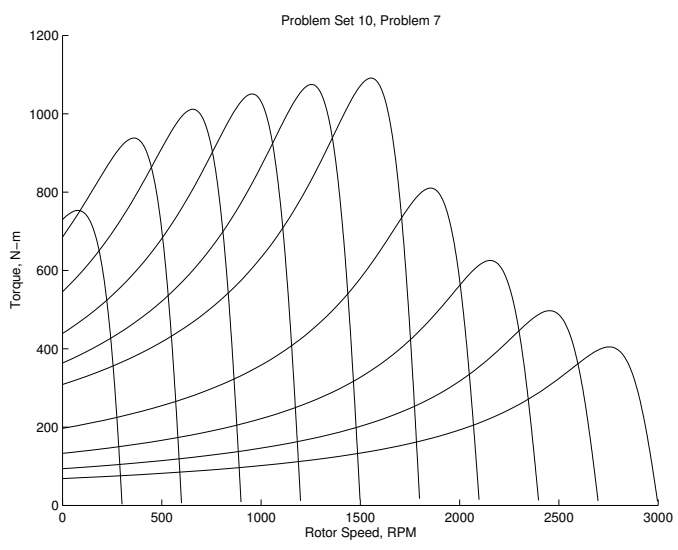

Figure 5: Torque Curves: Multiple Frequencies
**Problem 7: For 6.979** This is straightforward: all that we change is frequency and voltage between curves. The results are plotted in Figure 5